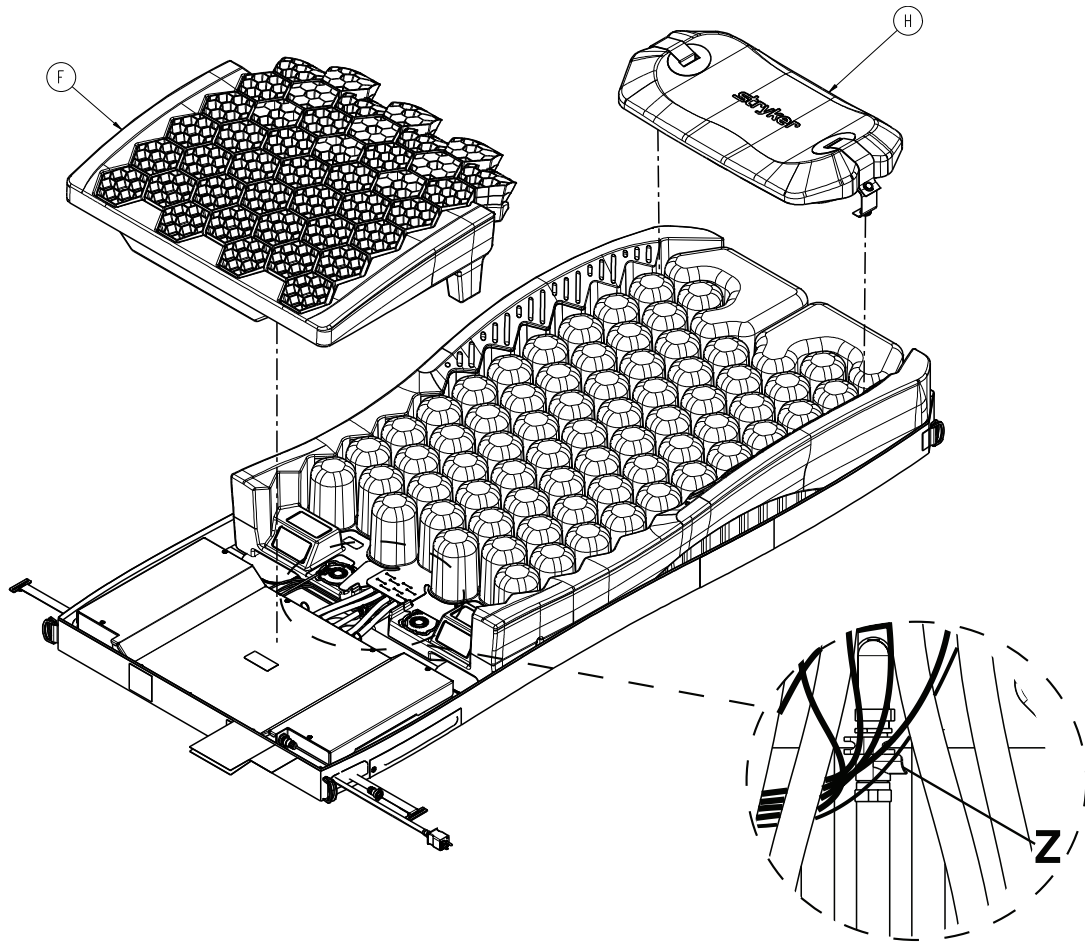

Figure 5 – Gel crib, pillow, and quick disconnect fitting
2. Unsnap the pillow (H) from the left and right side of the pod assembly (Figure 5). Save the pillow.
4. Lift up and remove the foot section gel crib (F). Save the gel crib.